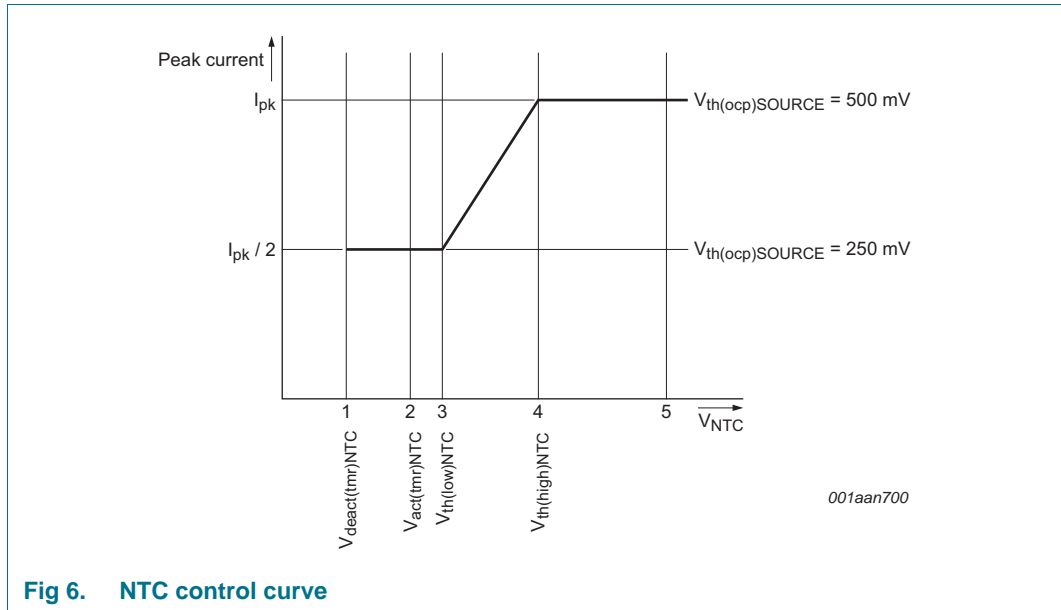

Fig 6. NTC control curve
The NTC pin can be used as a control method for LED thermal protection. Alternatively, the pin can be used as an input to disable/enable light output using a digital signal (PWM dimming). The pin has an internal current source that generates the current of $I_{\text{offset}(NTC)}$. An NTC resistor to monitor the LED temperature can be directly connected to the NTC pin. Depending on the resistance value and the corresponding voltage on the NTC pin, the converter reacts as shown in Figure 6.
When the voltage on the NTC pin exceeds $V_{th(high)NTC}$ (see Figure 6 \(4\)), the converter delivers nominal output current. When the voltage is lower than this level, the peak current is gradually reduced until $V_{th(low)NTC}$ is reached (see Figure 6 \(3\)). The peak current is now half the peak current of nominal operation. When $V_{act(tmr)NTC}$ is passed (see Figure 6 \(2\)) a timer starts to run to distinguish between the following situations:
- If the low-level $V_{deact(tmr)NTC}$ is not reached within time $t_{to(deact)NTC}$, (see Figure 6 \(1\)) LED overtemperature is detected. The IC stops switching and attempts to restart from the HV pin voltage. The converter restarts from an NTC protection shutdown when the voltage on the NTC pin exceeds $V_{th(high)NTC}$ (see Figure 6 \(4\)). It is assumed that the reduction in peak current does not result in a lower NTC temperature and LED OTP is activated.
- If the low-level $V_{deact(tmr)NTC}$ is reached within the time $t_{to(deact)NTC}$, (see Figure 6 \(1\)) it is assumed that the pin is pulled down externally. The restart function is not triggered. Instead, the output current is reduced to zero. PWM dimming can be implemented this way. The output current rises again when the voltage is higher than $V_{th(low)NTC}$.
The NTC pin can be used to make a soft start function. During switch-on, the level on the NTC pin is low. By connecting a capacitor (in parallel with the NTC resistor), a time constant can be defined. The time constant causes the level on the NTC pin to increase slowly. When passing level $V_{th(low)NTC}$ (see Figure 6 \(3\)), the convertor starts with half of the maximum current. The output current slowly increases to maximum when $V_{th(high)NTC}$ (see Figure 6 \(4\)) is reached.